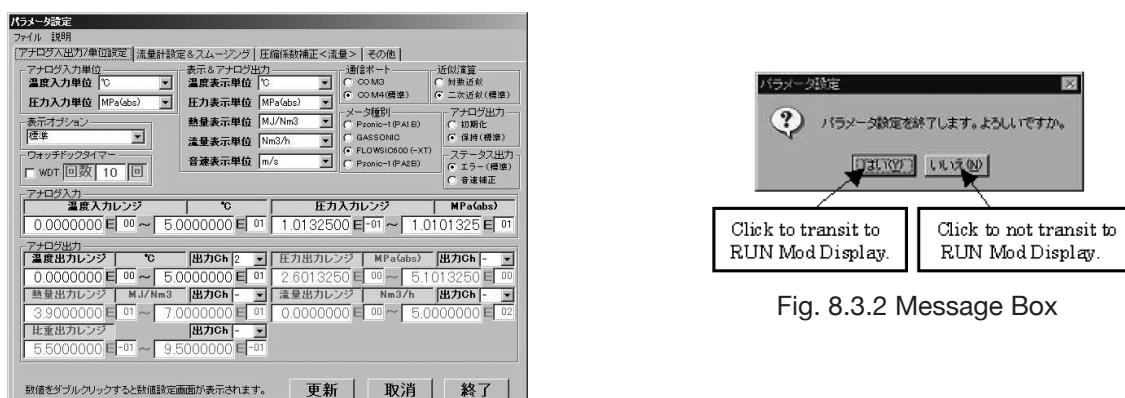

Fig. 8.3.1 Transiting to the RUN Mode Display Screen
2. When the screen as shown in Fig. 8.3.1 appears, click [終了 Ctrl+E] [Exit Ctrl+E] in File or [終了] [Exit] in the lower right of the screen.